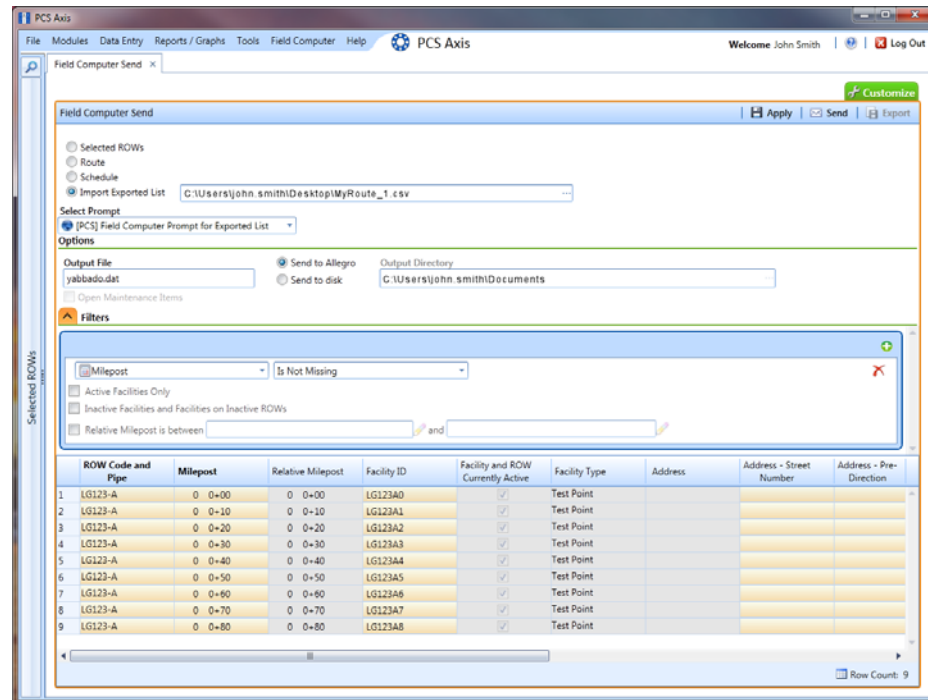

Figure 13-15. New 'And' Filter
- 4 Click the option **Import Exported List** (Figure 13-15, page 569).
- 10 If you want to work with a subset of facility records that meet *all* filter conditions, create an AND filter group using the following steps (Figure 13-15):